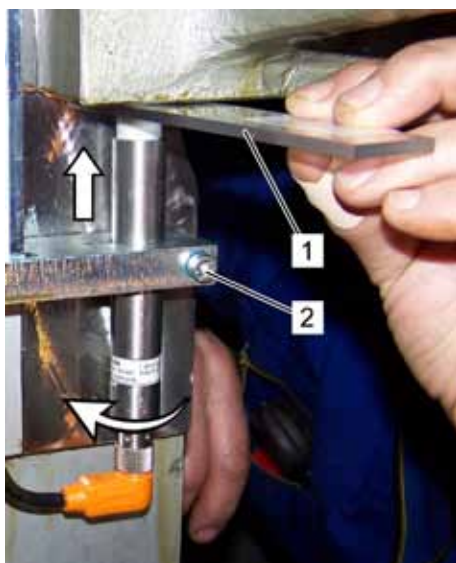

Fig. 44: Adjusting sensor
5. Bear this sensor against the plastic sheet until it rests on the calibration tool (Fig. 44/1) which has to be in contact with the machined crosshead surface.
7. Tighten the respective clamp screw (Fig. 44/2) with 16 Nm.